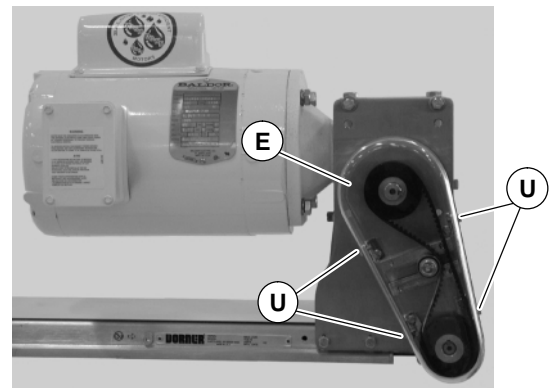

Figure 9
8. Attach cover (E of Figure 9) with screws (U). Tighten screws to 35 in-lb (4 Nm).